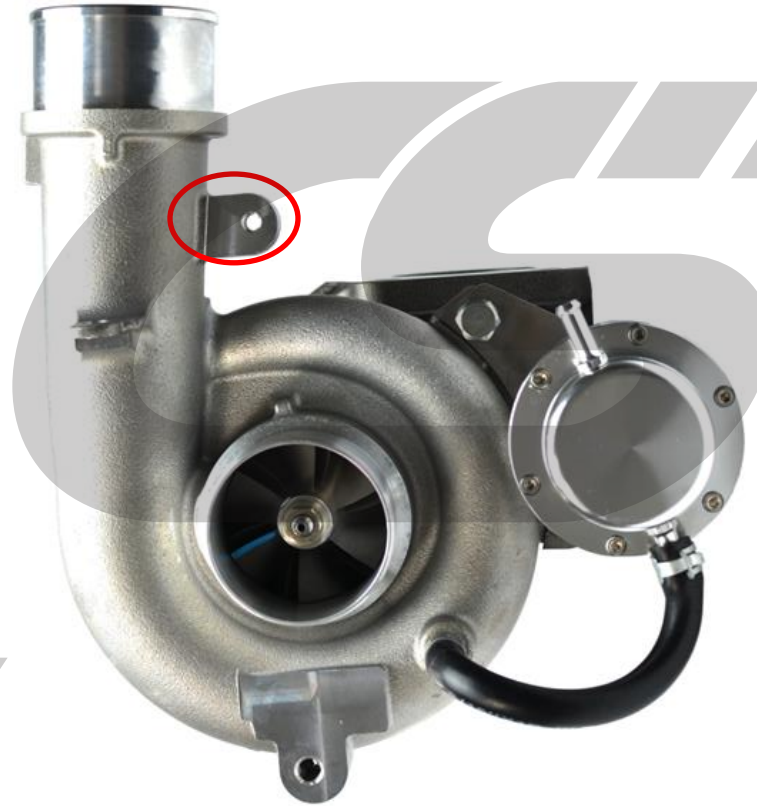

Figure 4a
- a) Location 2 is shown with the red circle in Figure 4a.